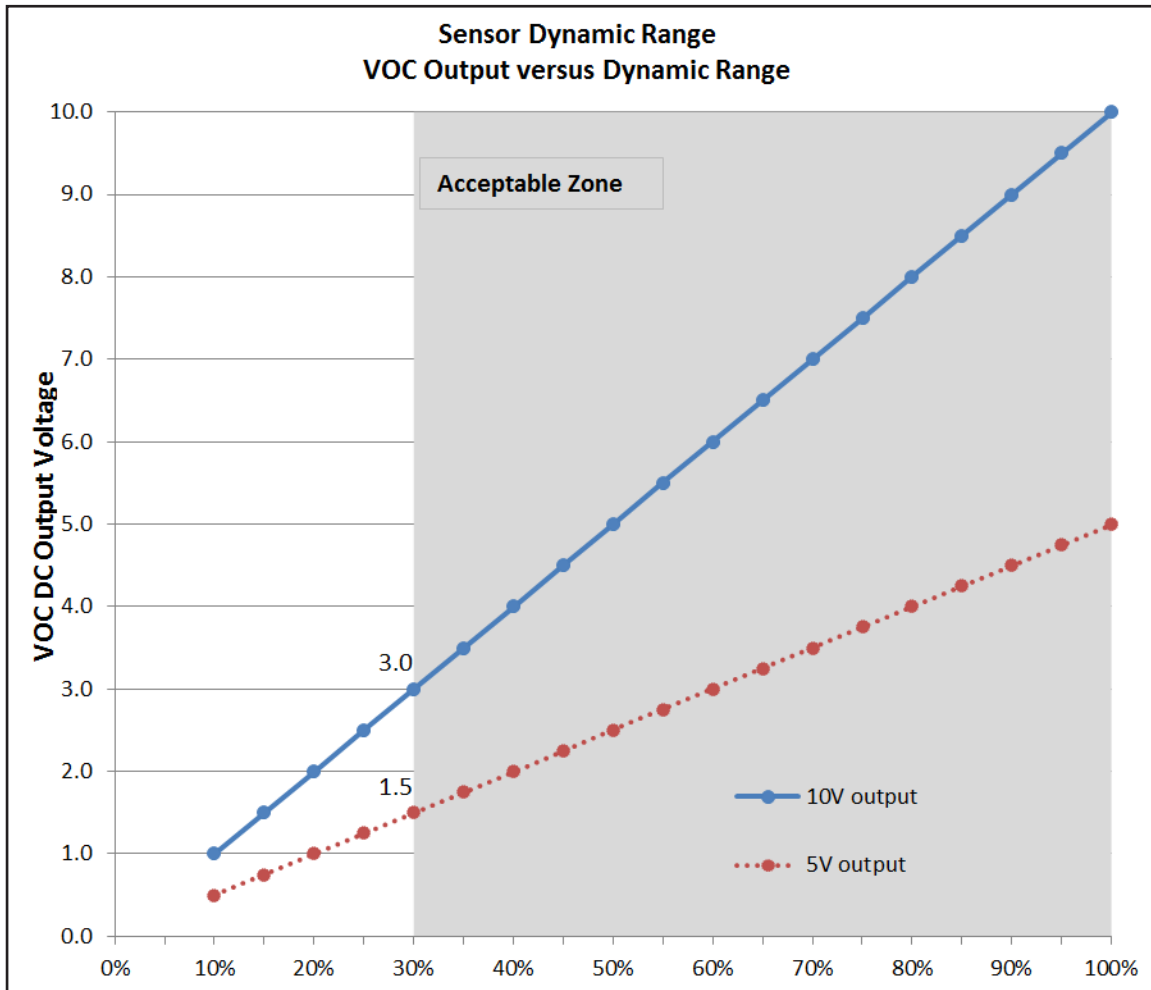

Fig. 12: Acceptable Dynamic Range Output Graph
- Use the graph in Fig. 12 to determine dynamic range.
The VOC algorithm requires a dynamic range of greater than 30% for proper operation. Sensors reporting a dynamic range of 30% or less should be considered for replacement. (See Fig. 12)